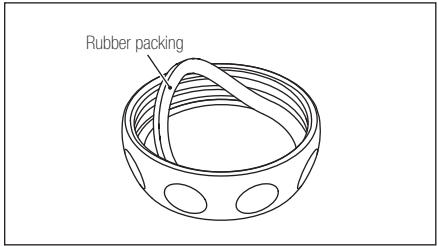

Fig.13
- 2) Remove the rubber packing and disassemble the powder case cap. (Fig. 13)